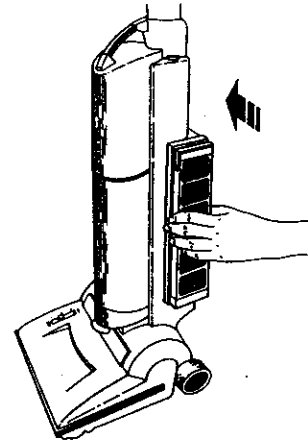

FIGURE 28
- Slide the Cartridge into the Filter opening until it touches the stops at the back wall. (Figure 28) The arrow on the top of the Cartridge must point outwards.